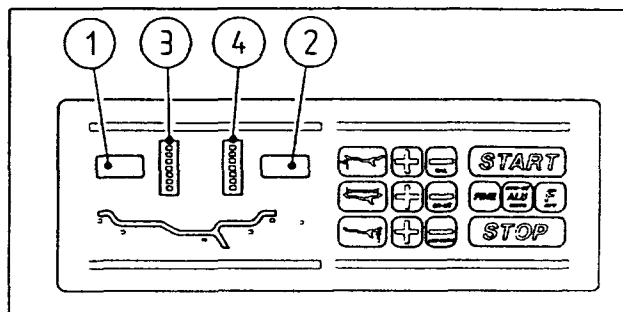

Fig. 42
B. Read the imbalance amount on the outer display (#2 Fig.42). Values are displayed in grams but can be displayed in ounces (see section 8.1) and are automatically rounded to the nearest commercial wheel weight.
Turn the wheel until the displays of the outer plane imbalance position indicator (#4 Fig.42) are illuminated and blinking.
C. Correct the imbalance on the inner plane in the same way (reading the data on display #1 Fig.42 and LED's #3 Fig.42). If the balancing program selected is *Static*, the correction is made on one plane only.